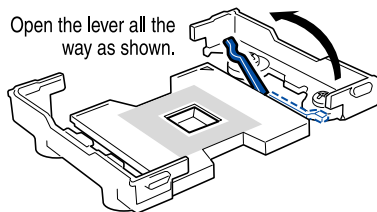

FIGURE 5-20 Opening the Socket Lever
3. **As shown in Figure 5-20, open the socket lever.**